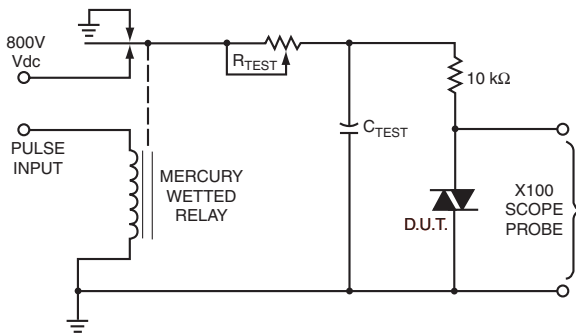

Figure 9. Static dv/dt Test Circuit
3. This is static dv/dt. See Figure 9 for test circuit. Commutating dv/dt is a function of the load-driving thyristor(s) only.